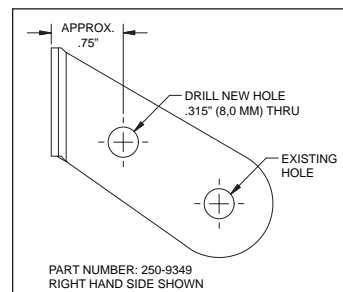

Figure 4. Bracket Modification CRZ Only
- NOTE:** CRZ only. A new .315" hole needs to be drilled in the hose bracket (P/N 250-9349/50) as shown in Figure 4.